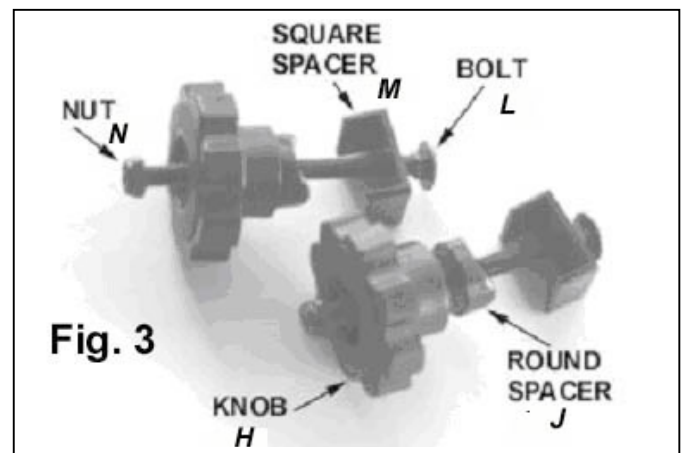

Fig. 3
- Parts bag including two knobs and hardware (Fig. 3)